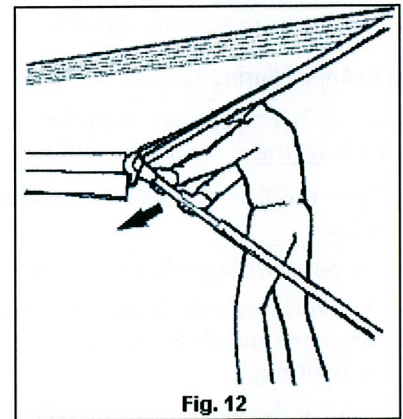

Fig. 12
4. Lock the rafter arm in position by pressing down on the steel main arm bar (Fig. 12) until the ratchet stud clicks. At this point the fabric will be taut.